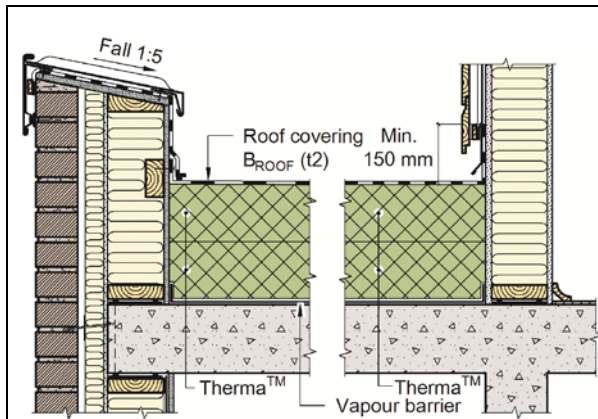

Fig. 9
- In cases where a concrete roof structure has parapets or adjacent walls/facades made with combustible materials, the roof side must be protected with two layers of type A gypsumboards 13 mm or one layer type F fireproof plaster board 15 mm. In this case a 0.6 m wide board of 20 mm PROMATECT®-H calcium silicate under the Kingspan Therma™ towards the wall is not necessary. See Fig. 9.
- Regarding parapets, see Fig. 9.